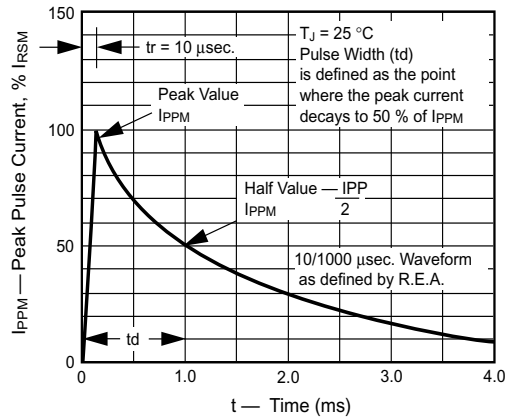
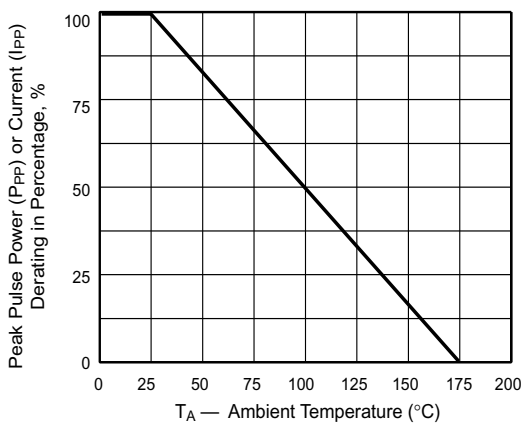

Figure 3. Pulse Waveform
Figure 2. Pulse Derating Curve
(1) Pulse test:  $t_p \leq 50$  ms
(2) Surge current waveform per Fig. 3 and derate per Fig. 2
(3) All terms and symbols are consistent with ANSI/IEEE CA62.35
(4) For bidirectional types with  $V_R$  10 volts and less the  $I_D$  limit is doubled